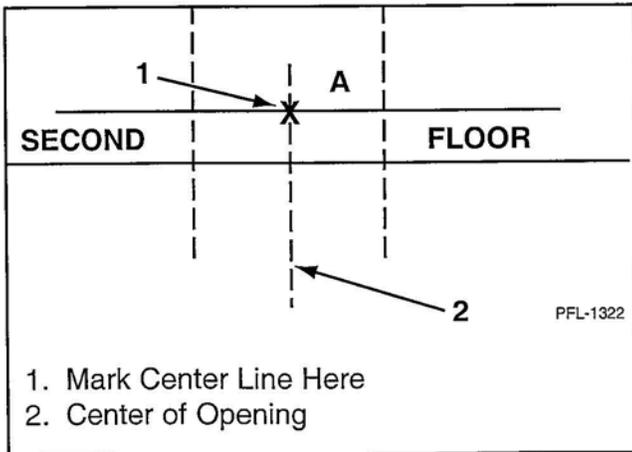

Figure 2
2. Lay out position of lift at second level opening. See Figure 2.